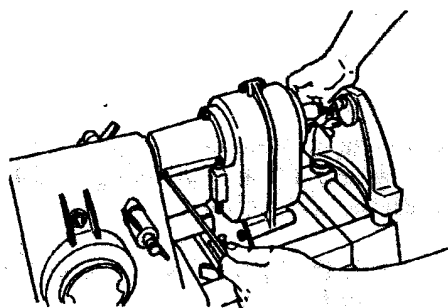

Fig.13
- Quill clamp cap screw (2) is loose
- Bracket's cap screws (28) are loose
- Speed Reducer's quill clamp (4) is all the way on Mark V's quill
- Bracket support assembly's (31) wing nut is securely tightened
10. Holding the Speed Reducer near the drive center, align points of the drive center and the cup center (see Fig.13). When you have reached alignment, tighten the quill clamp's cap screw (2).